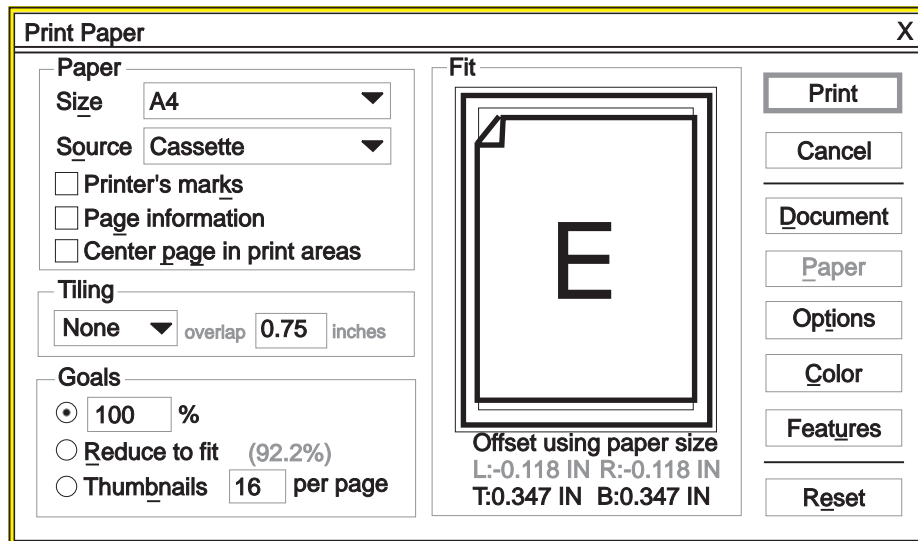

Figure 130. Sample Paper Dialog from Adobe PageMaker 6.0
2. Select the correct paper size from the **Size** drop-down menu, as shown in Figure 130. You can select either a standard paper size, or a custom paper size.